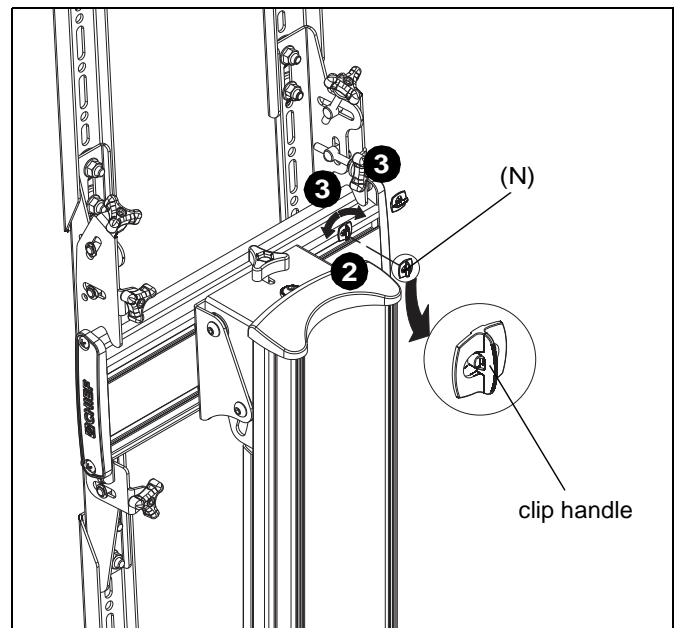

Figure 9
2. Place FCA clip (U) into groove on back of Fusion mount with clip handle in a vertical position. (See Figure 9)
3. Rotate FCA clip (U) 90° in either direction until clip handle is in a horizontal position. (See Figure 9)